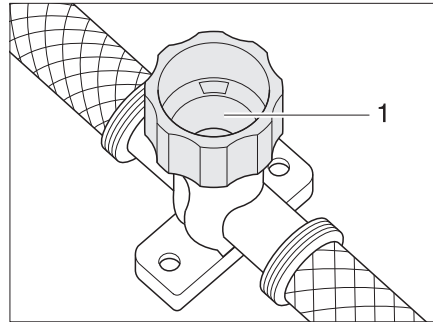

Fig. 135 Drain cock for water heater
- Close the drain cock. To do so, turn the cap (Bild 135,1) clockwise.
- Open the drain cock of the water heater. To do so turn the cap (Bild 135,1) anticlockwise.